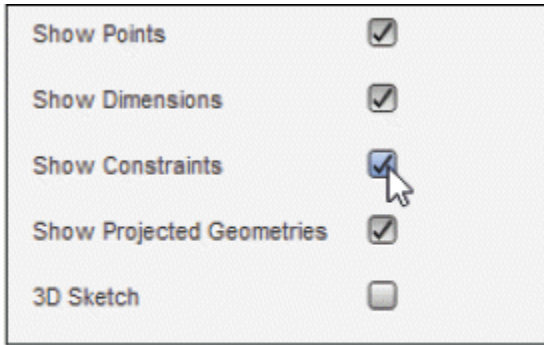

Figure-94. Show Constraints check box
- Make sure the **Show Constraints** check box is selected from **SKETCH PALETTE** dialog box before working with constraints; refer to Figure-94.